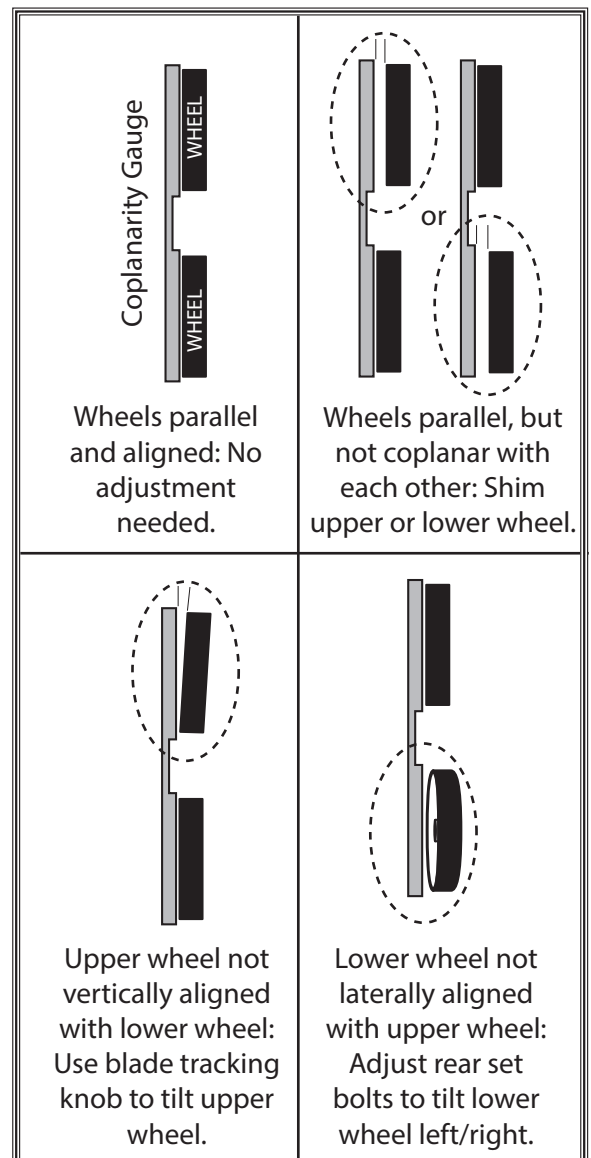

Figure 101. Wheel alignment illustration with solutions to misalignment problems.
- Check wheel alignment and adjust tracking knob to bring both wheels into alignment as much as possible. If wheels cannot be adjusted coplanar, use **Figure 101** to determine how to proceed with alignment adjustments.